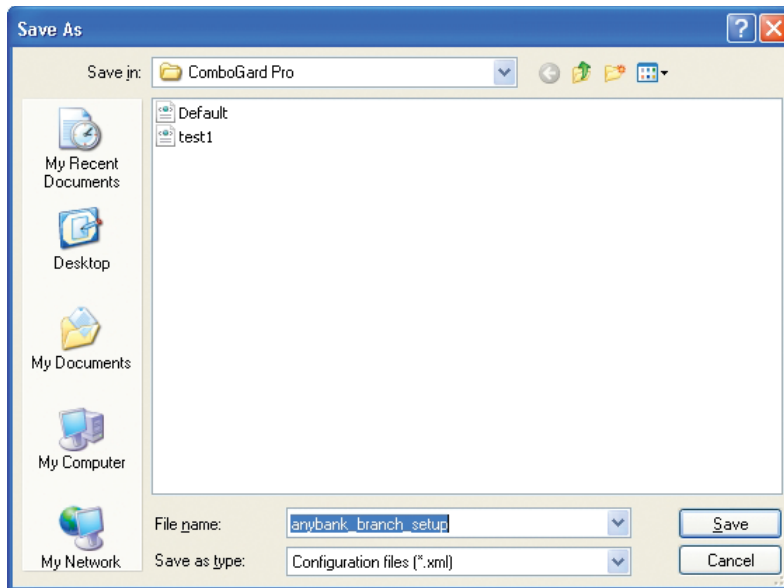

Figure 17
2. Name the file and click the **Save** button (Figure 17).